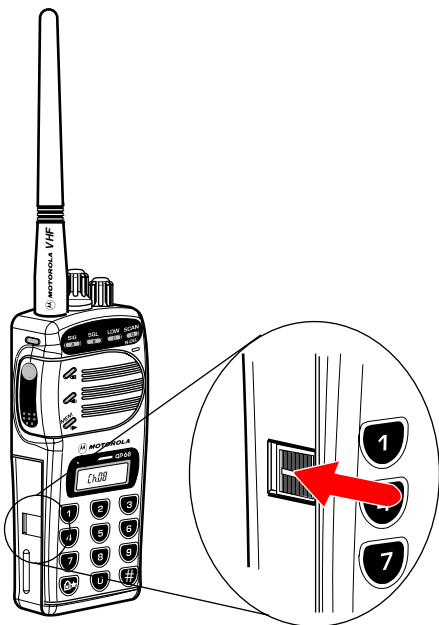

Figure 1-1 Slide Battery Latch
1. Slide latches away from the front panel on both sides of the radio to unlock battery compartment (Figure 1-1).